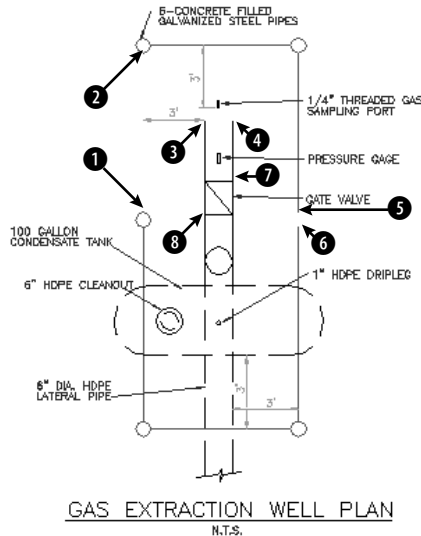
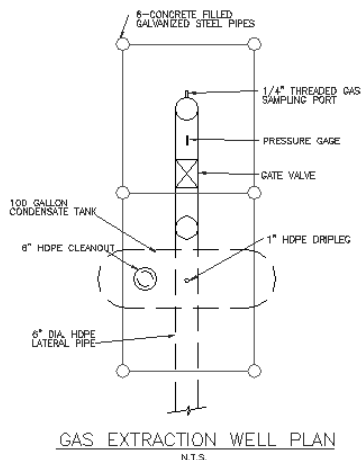

**Figure 11-12:** This gas extraction well plan drawing needs to be completed.
**Figure 11-13:** The completed drawing.
2. Save the file as `ab11-02.dwg` in your AutoCAD Bible folder. This drawing is shown in Figure 11-12. The current layer is 0. Make sure that OSNAP is on. Set running object snaps for endpoint and quadrant.
4. Start the LINE command. Draw a line from ❶ to ❷ in Figure 11-12, using the Quadrant running object snap.
7. Start the CIRCLE command. Right-click and choose 2p to use the two-point option. Draw a circle from the endpoint of ❸ to ❹ in Figure 11-12 using the Endpoint running object snap.
8. Without changing the layer, start the CIRCLE command and again use the 2p option. Draw a circle between the endpoints at ❺ and ❻.
10.  Pick any red object (the Pipes layer). Choose Make Object's Layer Current from the Layers toolbar or choose Format ⇨ Layer Tools ⇨ Make Object's Layer Current. The Pipes layer is now the current layer. Draw a line from the right quadrant of the circle at ❶ to the left quadrant of the circle at ❺ and ❻ in Figure 11-12.
12. Draw a line from the endpoint at ❷ to the endpoint at ❸.
14. Save your drawing. It should look like Figure 11-13.